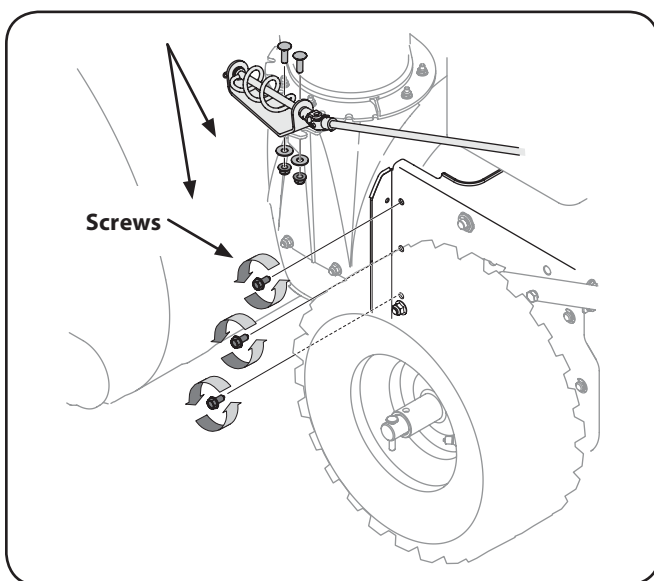

Figure 7-6
5. Place a block of wood underneath the auger housing as shown in Figure 7-6 and separate auger housing from the frame by tilting the housing forward and pulling up the handles.